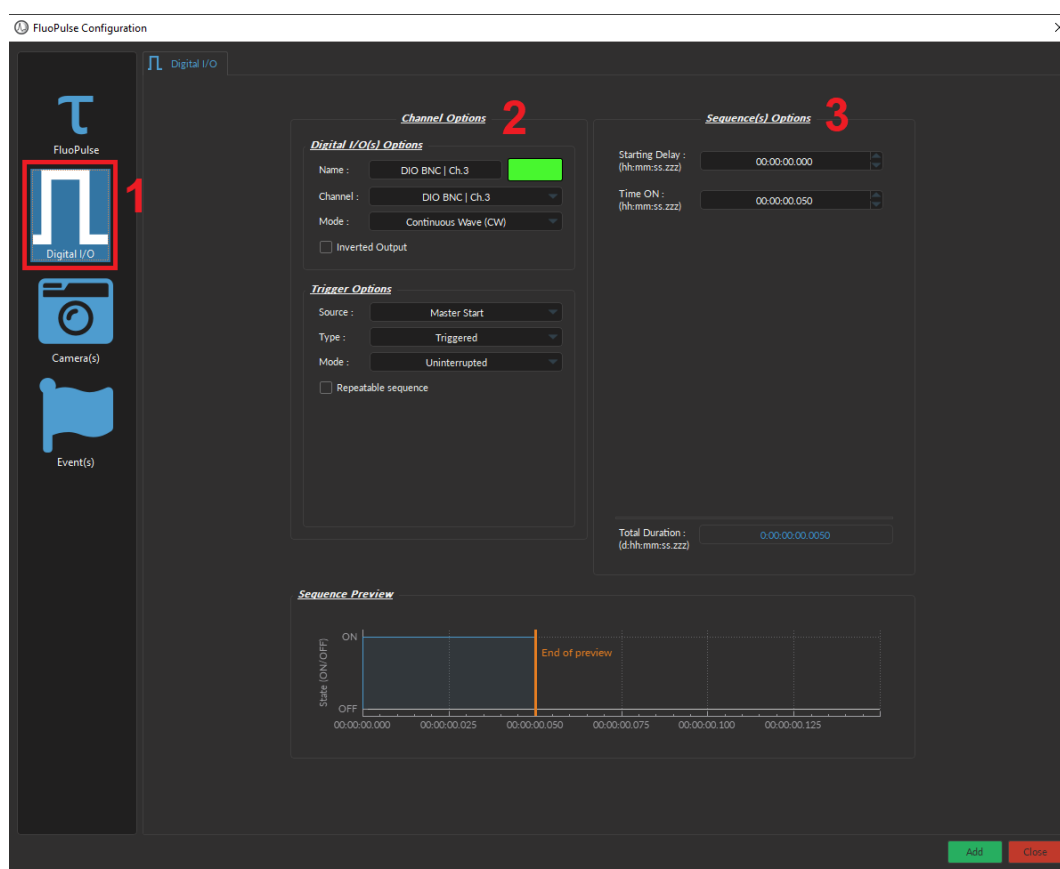

Figure 12.10: *Channel(s) configuration window, Digital I/O*
The *Channel(s) Configuration* window for the **Digital I/O** Channel (1) is divided into three sections (Fig. 12.10): (2) the **Channel Options**, (3) the **Sequence(s) Options**.